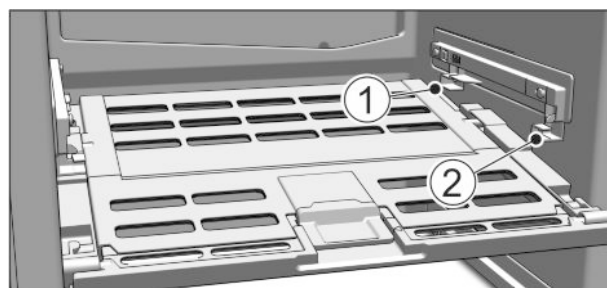

Fig. 17
- ▶ Inserting the Fruit & Vegetable-Safe cover: Insert the guide pieces into the rear retainer *Fig. 17 (1)* from below, then snap the plate into the retainer *Fig. 17 (2)* in the front.